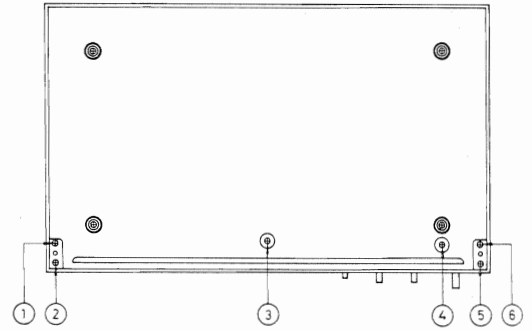

Fig. 1
1. Turn the set upside down, then remove the 6 setscrews fastening the bottom board. (Fig. 1: 1 ~ 6).